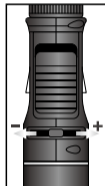

Fig.2
1. Set Gas Control Lever at mid position to start the flow of gas.( Fig.2)